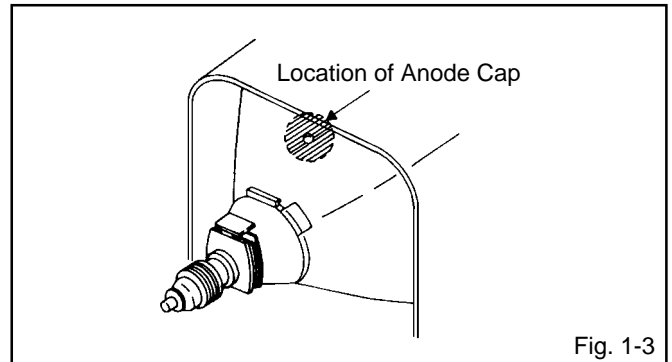

Fig. 1-3
1. Clean the spot where the cap was located with a small amount of alcohol. (Refer to Fig. 1-3.)